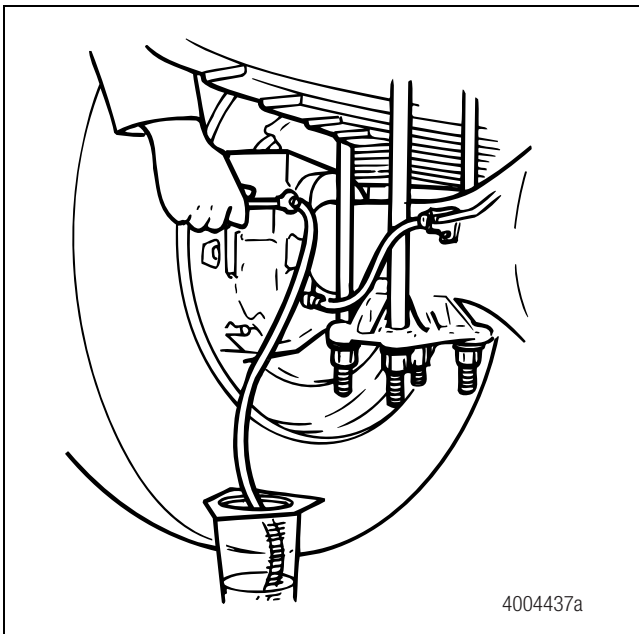

Figure 4.44
- C. Use a wrench to open the bleeder fitting screw to the torque value specified by the component manufacturer. Figure 4.44.